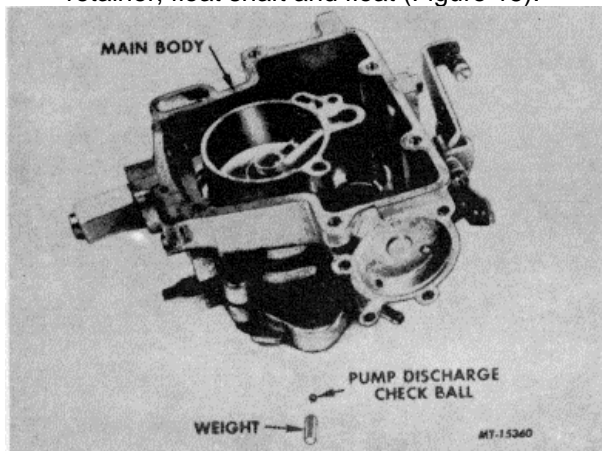

FIG. 14. Remove or Install the Pump Discharge Ball and Weight
1. Turn the carburetor body upside down and remove the pump discharge ball and weight (Figure 14). Save the old ball in case the seat needs staking (Figure 22).